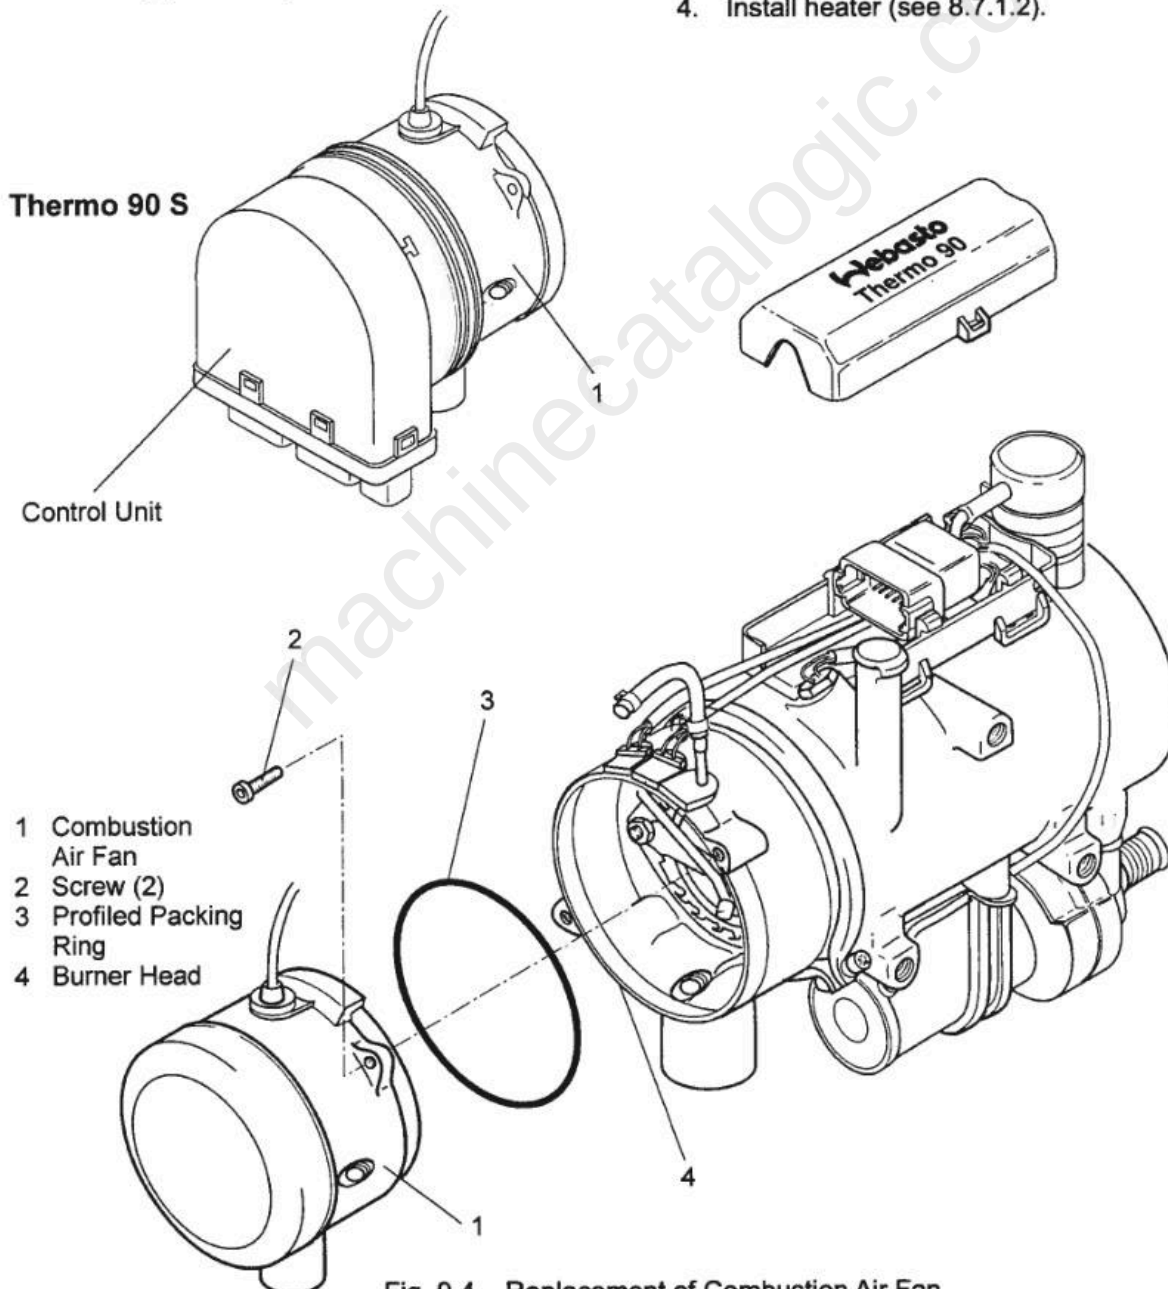

Fig. 9-4 Replacement of Combustion Air Fan
3. Remove screws (2, Fig. 9-4).
4. Pull combustion air fan (1) from burner head (4) and remove together with profiled packing ring (3).
Locate packing ring (3, Fig. 9-4) properly; do not squeeze.